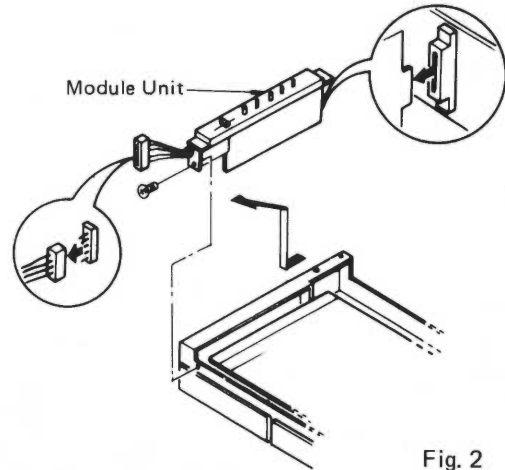

Fig. 2
- Remove the module fixing screw and the connector. (Fig. 2)
- Remove the module unit by lifting the front first, taking care not to damage the adjacent modules, and pull out the module. (Fig. 2)